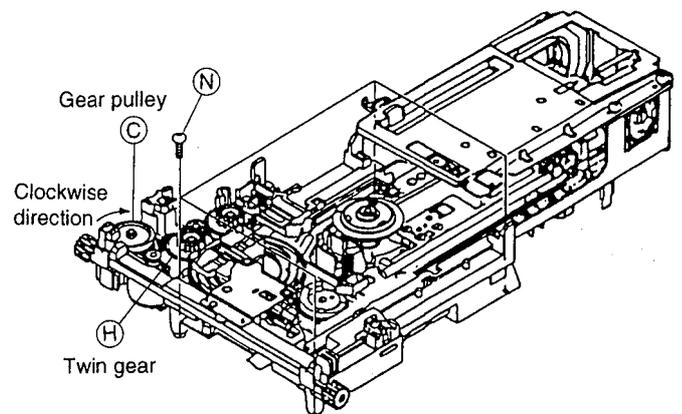
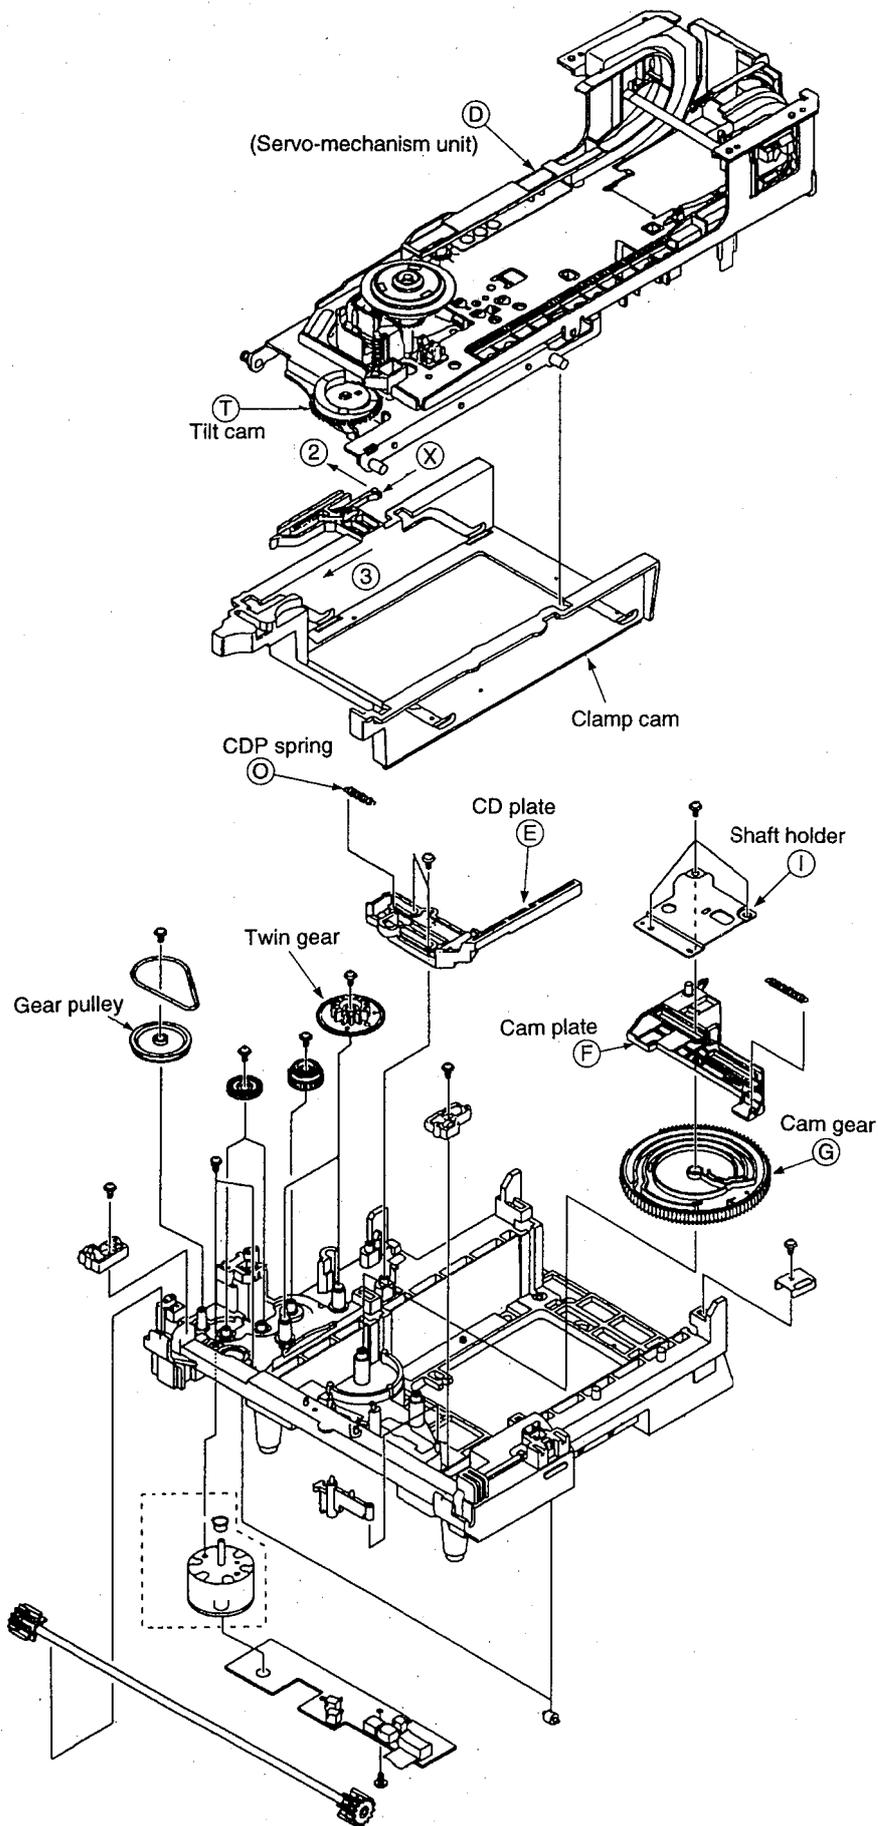
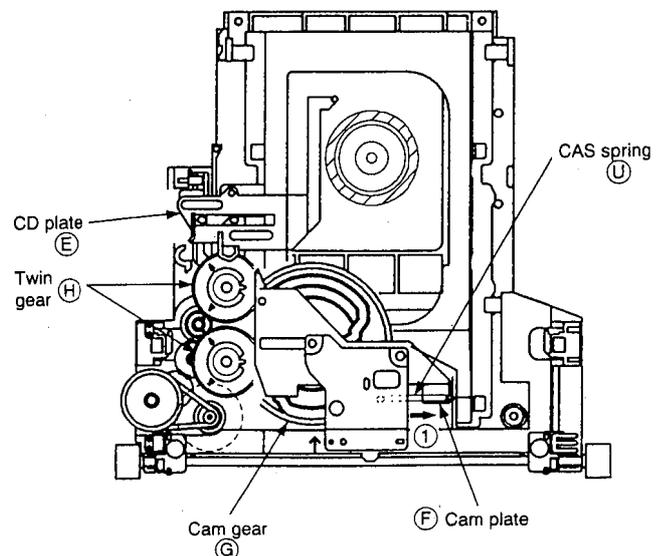
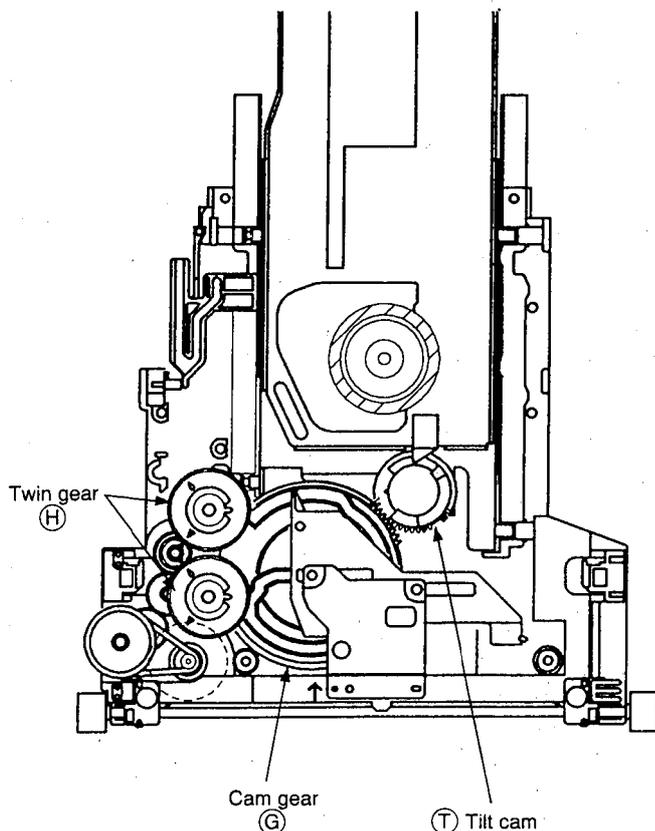

Fig. 1-4 Loading mechanism assembly
Fig. 1-5 Mechanism Section Disassembly Diagram
Fig. 1-7 Loading mechanism section
Fig. 1-8 Tilt mechanism section
3. Insert your hand through the bottom left side of the tray unit and turn the gear pulley (C) (Fig. 1-4) in a clockwise direction until the servo-mechanism unit (D) (Fig. 1-5) lowers. Keep turning the pulley until the tray unit starts to move towards the front.
4. Insert your hand through the bottom left side of the tray unit and turn the gear pulley **C** (Fig. 1-4) in a counterclockwise direction until the servo-mechanism unit **D** (Fig. 1-5) starts to move upward. Keep turning the pulley until the clamp position is reached.
5. When the clamp position has been reached, turn the gear pulley **C** (Fig. 1-4) in a clockwise direction until the servo-mechanism unit **D** lowers. Keep turning the pulley until the tray unit starts to move towards the front.
3. Remove the four fixing screws **N** (Fig. 1-4) of the mechanism base and remove the whole servo-mechanism unit from its casing.
4. Remove the mechanism base side of the CDP spring **O** (Fig. 1-5), loosen the CD plate's two screws, remove the CD plate **E** while bending the mechanism base.
8. While pushing the cam plate **F** (Fig. 1-7) towards the direction of the arrow **D**, turn the twin gear **H** (Fig. 1-7) in a counterclockwise direction.
9. Stop turning the twin gear **H** (Fig. 1-7) when the servo-mechanism unit **D** (Fig. 1-5) has gone upward and the tilt cam **T** is engaged with the cam gear **G** by three to five teeth. (Place in the same position when attaching the servo-mechanism unit.)
10. While bending the clamp cam hook **X** (Fig. 1-5) in the direction of the arrow **Z**, move the hook to its "built-in position" **W** (Fig. 1-5) towards the rear.
11. Lift the servo-mechanism unit **D** straight up and remove the unit from the clamp cam (Fig. 1-5).
1. Make sure that the CD plate **E** is positioned to the right (LD Tray mode) as in Fig. 1-7. When the CD plate **E** is positioned to the left (CD Tray mode) as in Fig. 1-7, perform steps 1) to 2).
- 1) Turn the power ON. Press the LD OPEN/CLOSE button while pushing cam plate **F** (Fig. 1-7) towards the direction of the arrow **D**.
- 2) Wait until the cam gear **G** (Fig. 1-7) turns, the servo-mechanism unit **D** (Fig. 1-5) goes upward, and the carriage assembly stops moving.
2. Press the LD OPEN/CLOSE button to open the tray unit, or pull out the power cord from the AC outlet and turn the twin gear ④ (Fig. 1-4) in a clockwise direction until the cam gear ⑤ (Fig. 1-5) can no longer turn.
2. While turning the tilt cam ① in a counterclockwise direction by three to five teeth (Fig. 1-8) in the same manner as when the tilt cam was removed, attach the servo-mechanism unit from above to the clamp cam (Fig. 1-5). Insert the lead wires to the bottom side through the opening the center of the mechanism base.
3. While bending the clamp cam hook ② in the direction of the arrow ②, move the hook in the direction of the arrow ③ (Fig. 1-5).
4. Turn the twin gear ④ (Fig. 1-8) in a clockwise direction until the servo-mechanism unit lowers, the cam gear ⑤ (Fig. 1-8) stops turning, and twin gear ④ (Fig. 1-8) runs idle.
1. Bring the clamp cam (Fig. 1-5) close towards you (while the servo-mechanism unit is being lowered).
5. Fix the shaft holder ① using three screws (Fig. 1-5).
1. Upon attaching the CDP spring ⑦ (Fig. 1-5) to the CD plate ⑧, attach the CD plate ⑧ (from the right side) into the position shown in Fig. 1-7